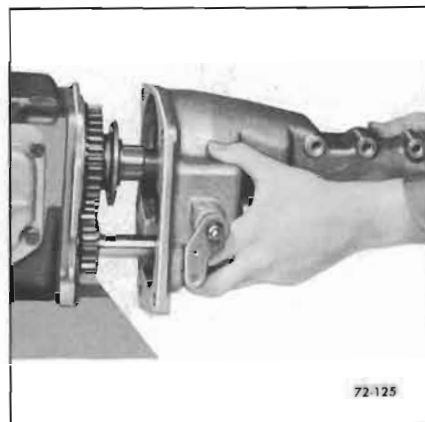

Figure 72-125—Installing Extension
17. Place the two synchronizer assemblies in neutral position. Pull reverse shifter shaft to left side of extension and rotate shaft to bring reverse shift fork as far forward in extension as possible. Start the extension onto the transmission case (Figure 72-125) while slowly pushing in on the shifter shaft to engage the shift fork with the reverse gear shift collar. When the fork engages,